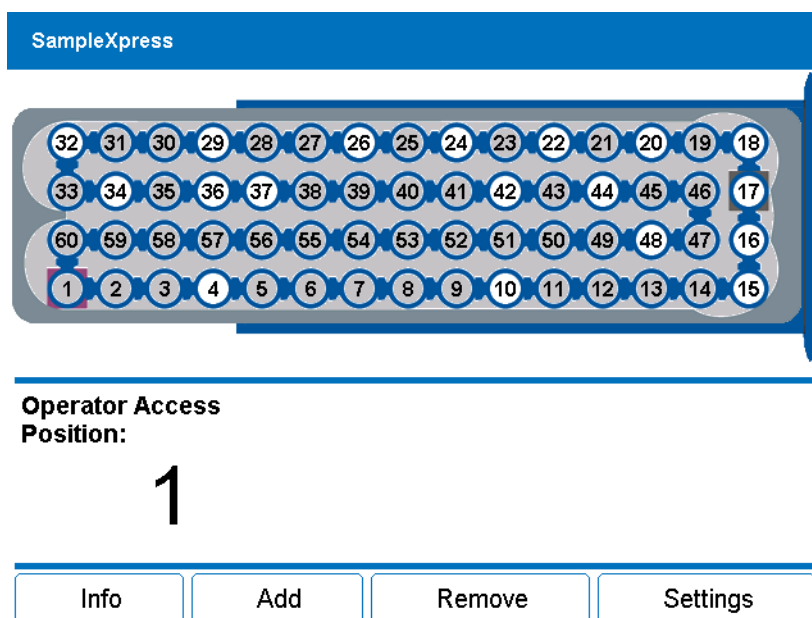

Figure 8.2: Main Screen
3. Check if the sample (Figure 8.2/2) is under the maximum sample height. **The glass tube must be below the yellow line, otherwise it will break.**